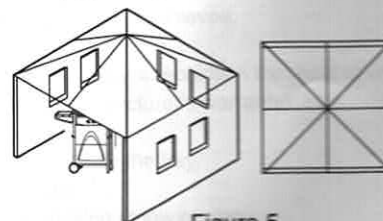

Figure 5
- 30% or more in total of the remaining wall area is open and unrestricted. (figure 5)